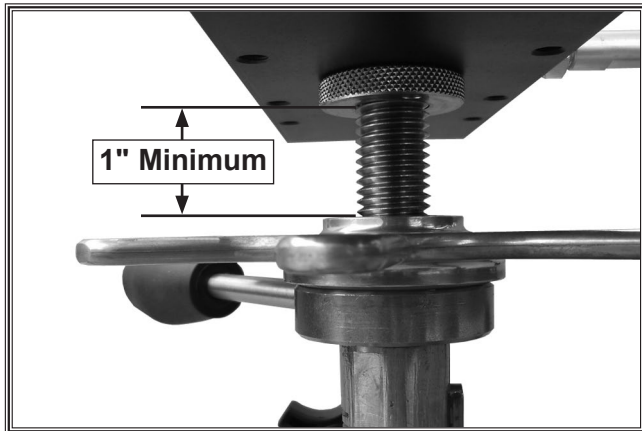

Figure 3. Fine elevation raised up at least 1".
1. Loosen fine elevation lock and use mariner wheel to raise cradle approximately 1", as shown in **Figure 3**. This gives you enough room to work during the next few steps.